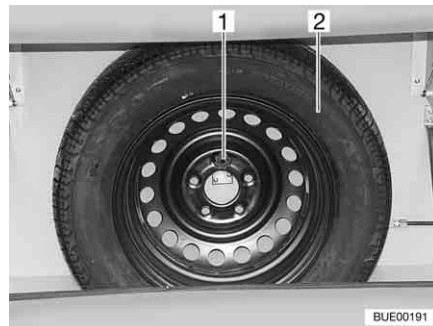

Fig. 233 Spare wheel support
The spare wheel support is fitted in the gas bottle compartment. The spare wheel (Fig. 233,2) is available for a surcharge.
- Undo bolt (Fig. 233,1).
- Remove the spare wheel (Fig. 233,2).